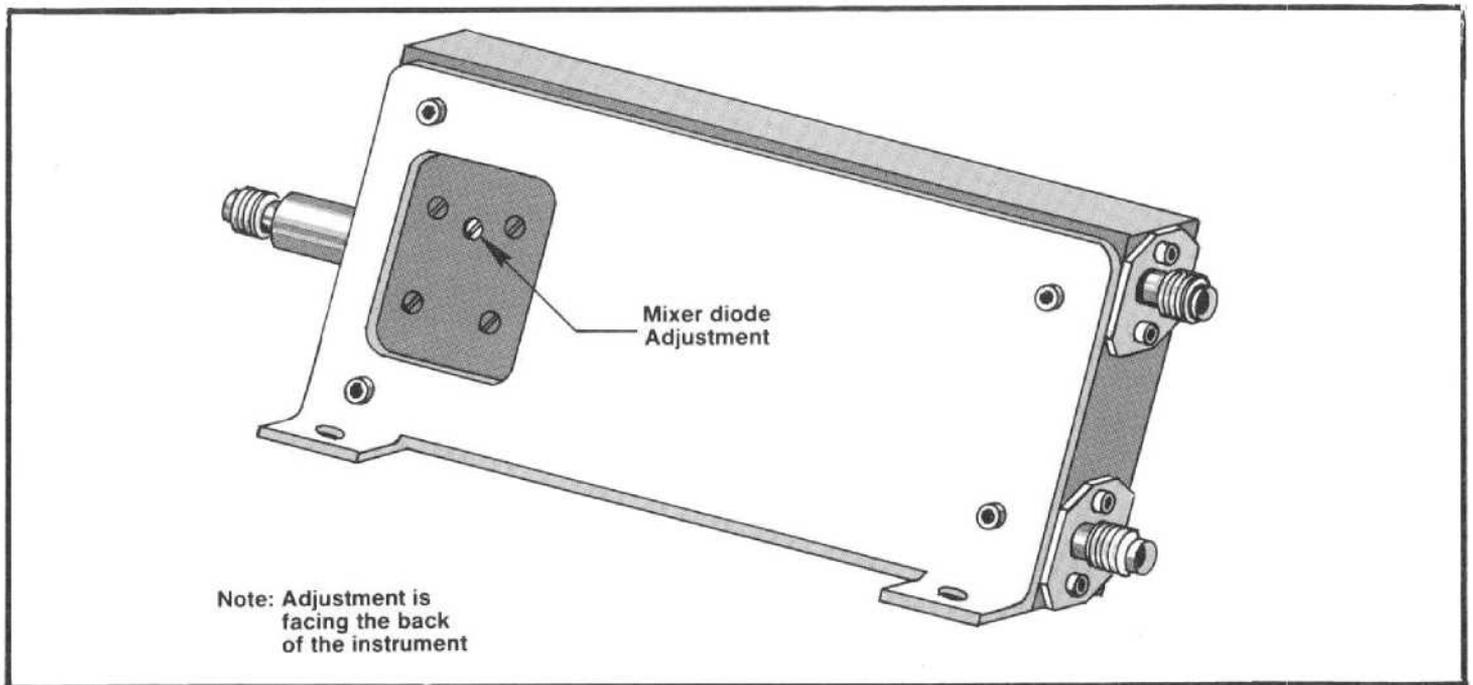

Figure 5-14. Location of the 1st Mixer tuning adjustment.
f. Adjust R1013 for a null in the amplitude of the 0 Hz response. (DO NOT exceed 0.1 V positive when adjusting for a null because this will degrade flatness.) Use a thin screw driver to adjust the tuning screw on the 1st Mixer Diode assembly A12A1. (The tuning screw is towards the rear of the instrument, see Figure 5-14.) Alternately adjust R1013 and the tuning screw for minimum amplitude.